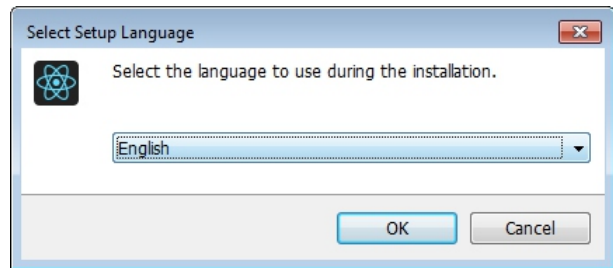

Figure 2 Select a Installation Language
Step 2: Select installation language as shown in Figure 2.